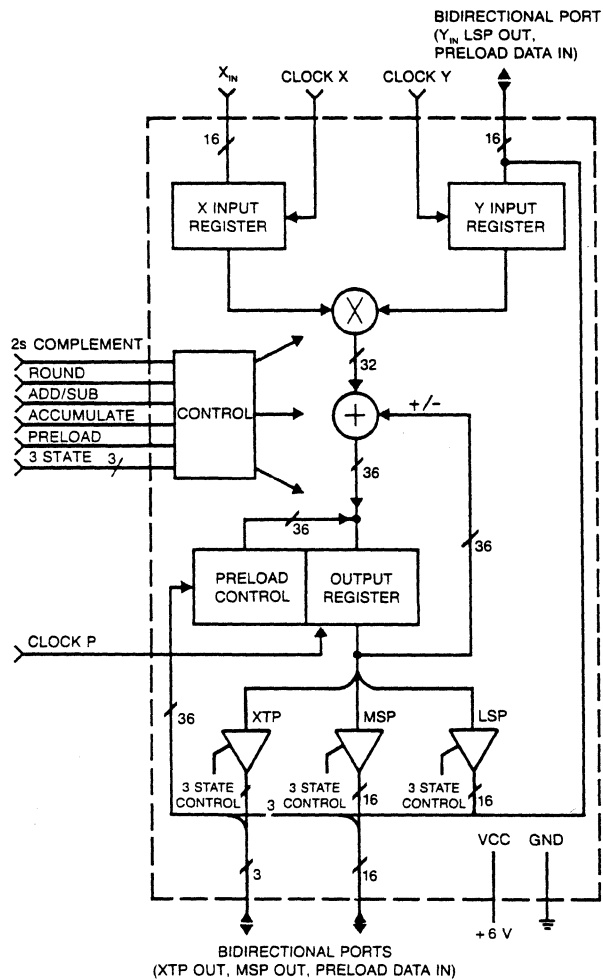

Figure 4-29. Multiplier-Accumulator Functional Diagram
4.12.2.5 16 x 16-Bit Parallel Multiplier/Accumulator. The multiplier/accumulator is a 64-pin dual-in-line chip with a total multiply-accumulate time of typically 115 nanoseconds. The multiplier consists of 16 data bits supplied by the CPU via the data bus. The numbers may be interpreted as signed or unsigned depending on the state of TC (two's complement control). An integer multiply is performed to obtain a 32-bit result which is sign extended to 35 bits, then loaded, added or subtracted into a 35-bit accumulator. Provision has been made to implement rounding by adding a logic 1 into bit 15 of the accumulator. Refer to Figures 4-29, 4-30, and 4-31.